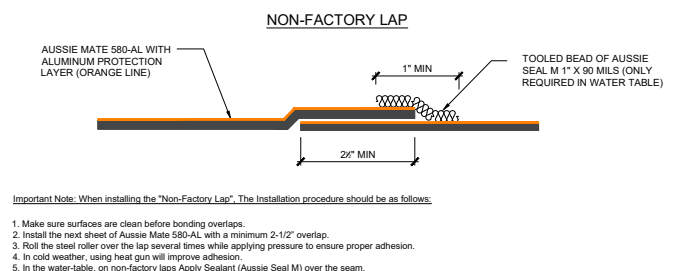

FIGURE 1.3 – NON-FACTORY LAP
**Non-Factory Lap:** Minimum 2 1/2" overlap required. If in the water-table non-factory laps must be sealed with Aussie Seal M. See Figure 1.3 on the next page.